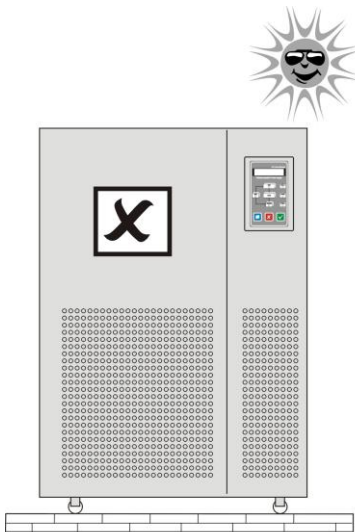

Figure 5
3. Do not position UPS in direct sunlight, drainage and damp areas. (Figure 5, 6)